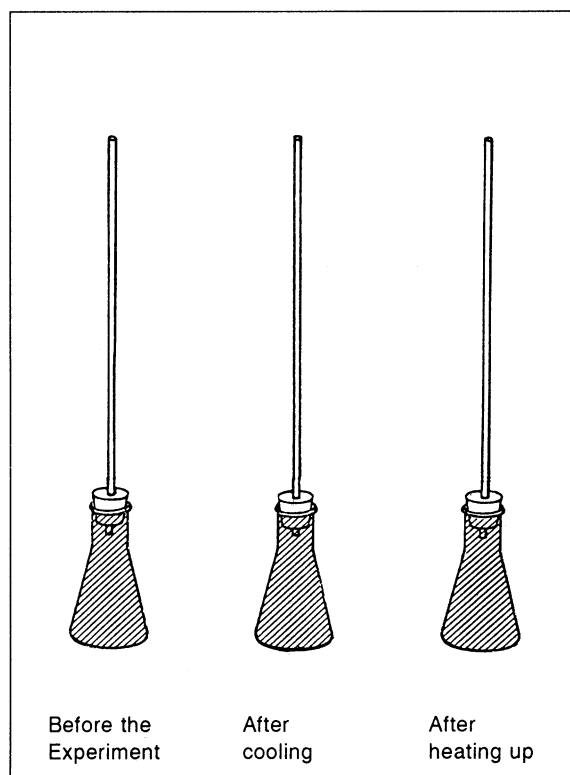

Fig. 2 Water levels
13. Draw in the water levels at each stage of the experiment on the diagram in fig. 2.